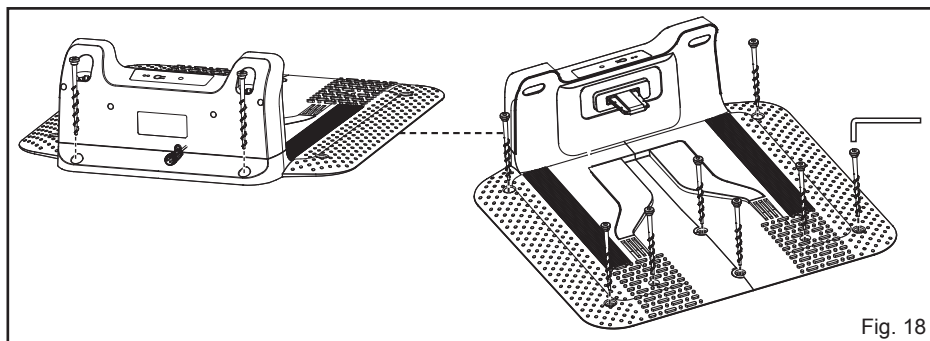

Fig. 18
- Secure the base station to the ground with the supplied screws (Fig. 18).